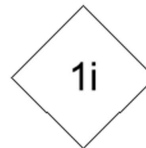

Figure 10.10 Symbol Legend
9. Add a text box to the left of the symbols as shown in Figure 10.10